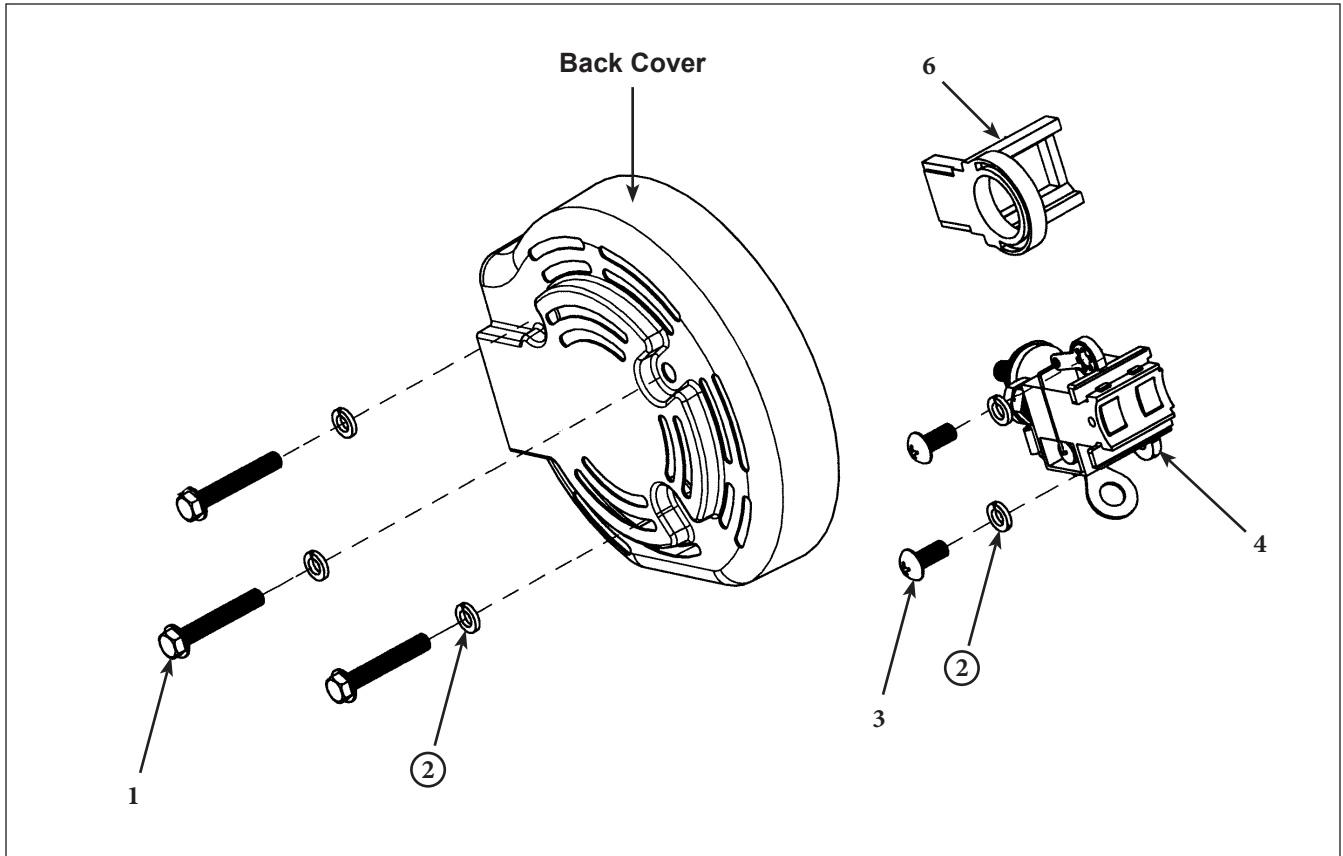

Figure 6.2 - Cover and Brush Assembly
- 3. Remove three screws (1, Figure 6.2) and lock washers (2) and remove the back cover. Discard lock washers (2).
- 4. Remove the first nut from the ground stud at the brush holder assembly. Remove the two screws (3) and lock washers (2) that attach the brush holder assembly (4) to the slip ring end housing. Remove the brush holder assembly from the slip ring end assembly. If replacing the assembly, discard the assembly (4) lock washers (2) and nuts (8). (brushes and hardware are included in new brush holder assembly)